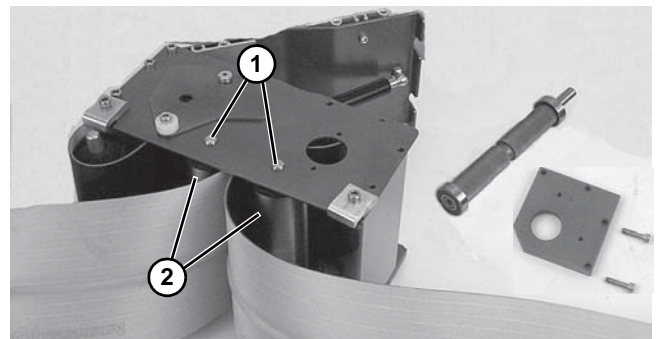

Figure 59
- For 5" (127 mm) or wider conveyor, depress both sides of each spring-loaded shaft (**Figure 59, item 1**). Remove pulleys (**Figure 59, item 2**).